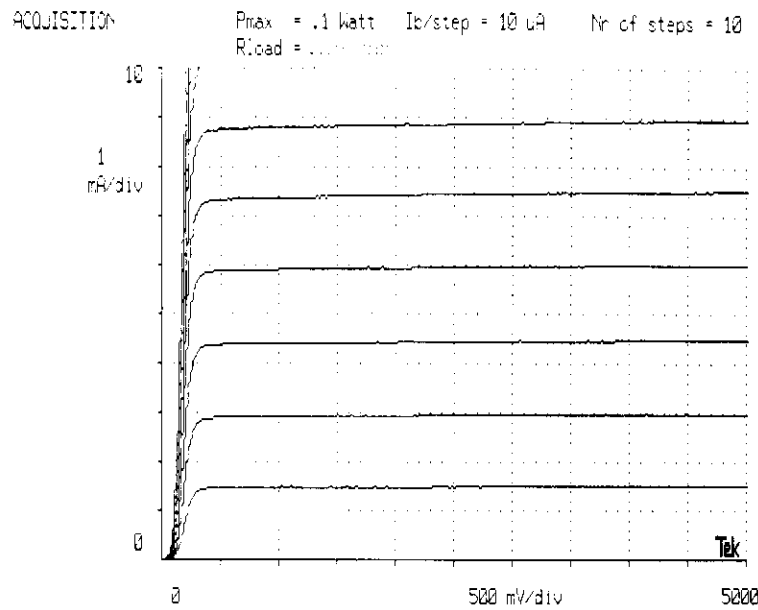

Figure 3-3: Vce - Ic curves (NPN transistor)
- Step 4. Pressing START will result in a set of $V_{ce} - I_c$ curves (see Figure 3-3) that gives a general indication of the transistor's performance.